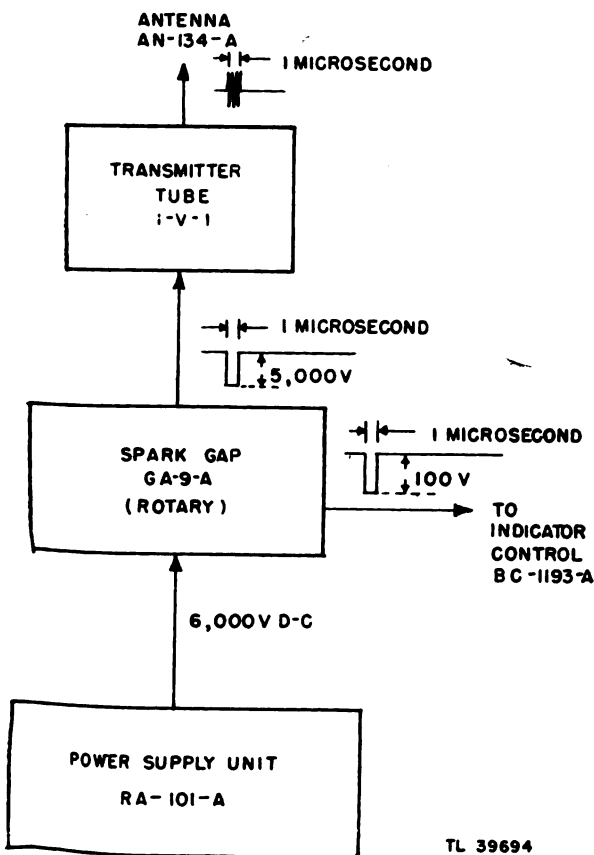
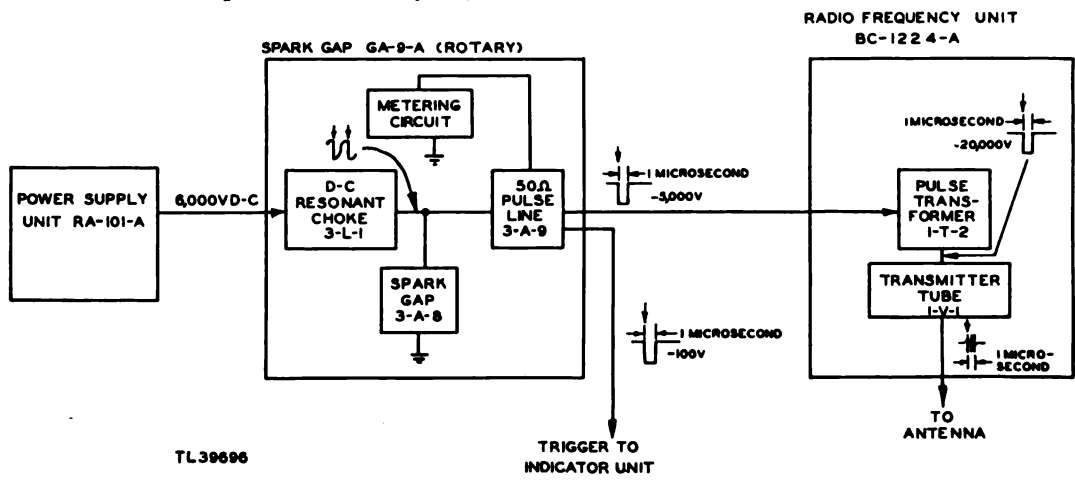
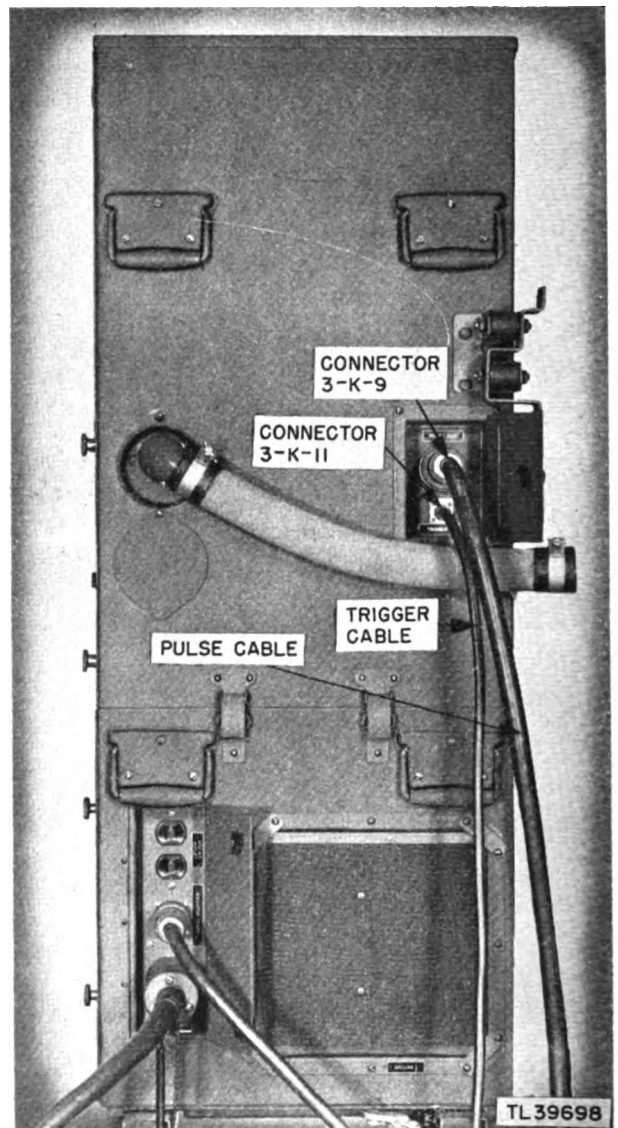

Figure 28. Transmitter system, simplified block diagram
Figure 30. Transmitter system, complete block diagram.
Figure 32. Modulator Unit BC-1194-A, side view.
Figure 28 is a simplified block diagram of the transmitter system, showing the development of the keying pulse to the transmitter tube.
Figure 30 is the complete block diagram of the transmitter system, showing the circuits in greater detail than in figure 28. In the remainder
(1) *D-c resonant choke.* The input to the d-c resonant choke is the 6,000-volt output of the high-voltage rectifier, and the output is a voltage that varies between zero and 12,000 volts as shown in figure 30. It is used to double the voltage output of the high-voltage rectifier.
(3) *Pulse-forming line.* The pulse-forming line has as its input the voltage wave developed by the d-c resonant choke and rotary spark gap. The abrupt change in voltage at one end of the line causes it to form the short negative pulse shown in figure 30. The output of the pulse-forming line is carried to the pulse transformer by the pulse cable. This cable is of a special design that will attenuate the pulse very little. Figures 32 and 33 show the connections of the pulse cable to the modulator unit and the pedestal base respectively.
c. **TRANSMITTER TUBE.** The 20,000-volt pulse from the pulse transformer is applied to the cathode of the transmitter tube (fig. 30) and causes it to oscillate for the duration of the pulse. These r-f pulses are fed to the antenna.